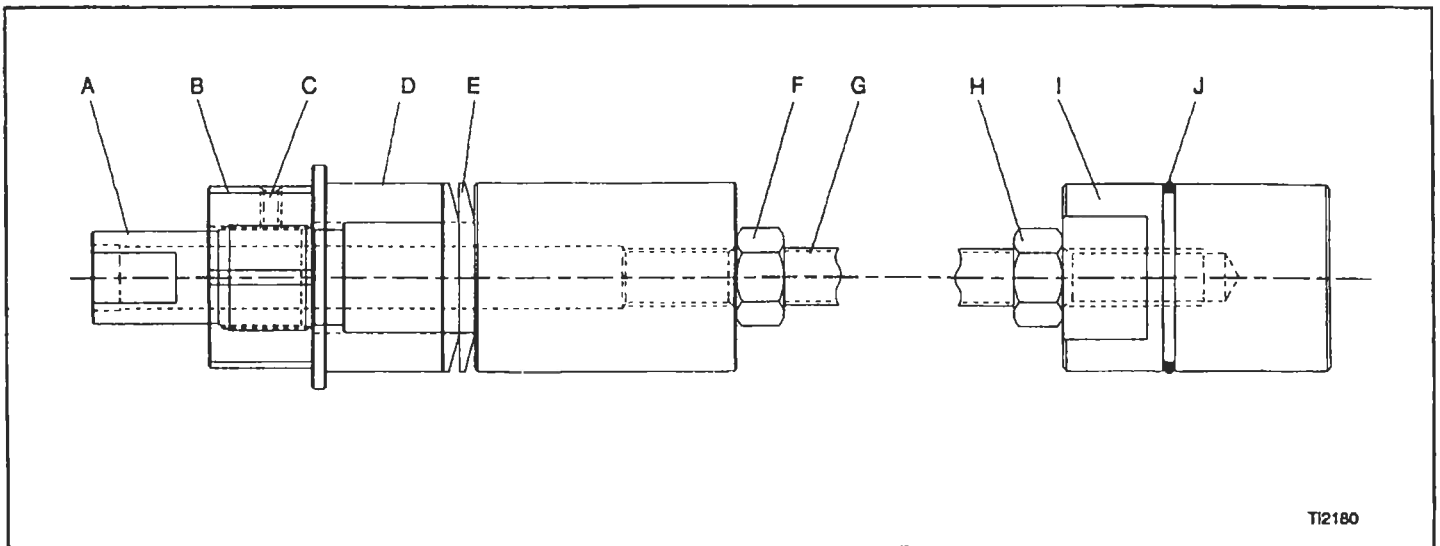
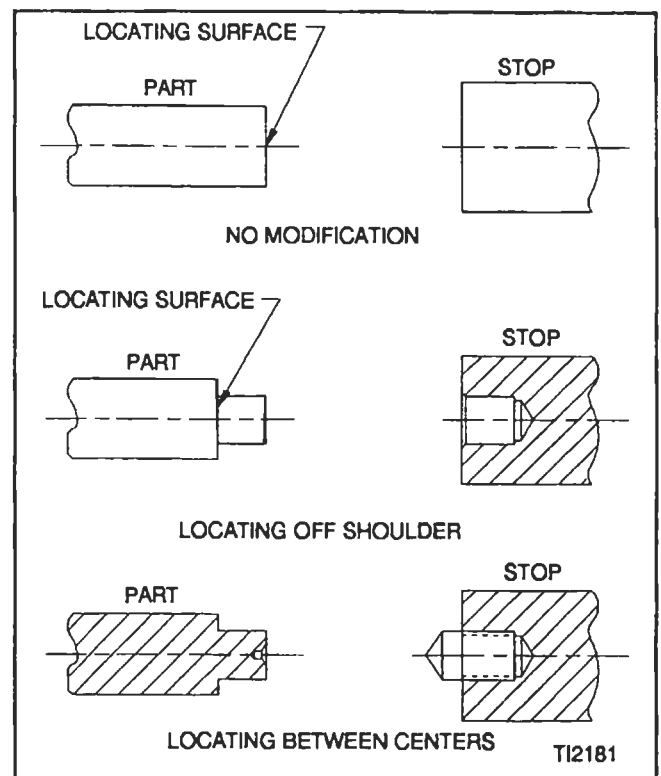

Figure 1 - 16C Spindle Stop Assembly
Figure 2 - Typical End Stop Modifications
4. Modify end stop "I", Figure 1, if required. Refer to Figure 2.
8. Apply a light coating of O-ring lubricant to O-ring "J", Figure 2.
4. Use a wrench to prevent body "A", Figure 1, from turning and loosen nut "B" using a 1-5/8 inch wrench.